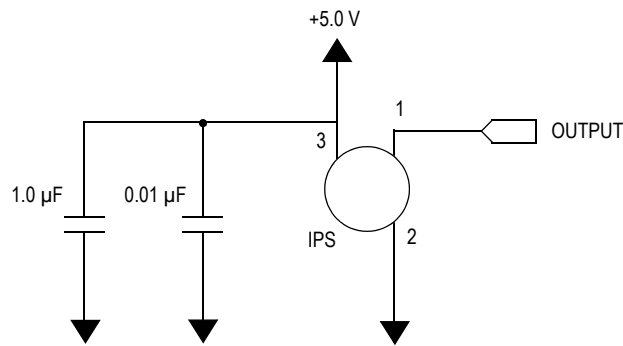

Figure 3. Recommended Power Supply Decoupling
- Decoupling circuit shown in Figure 3 required to meet electrical specifications.